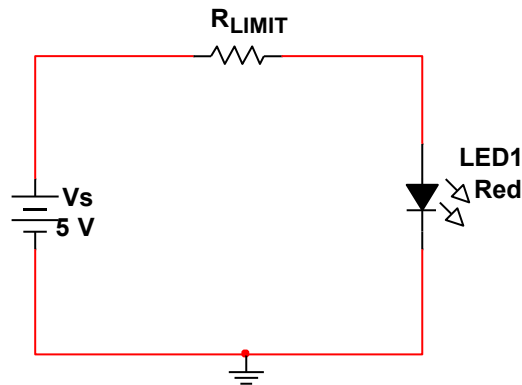

Figure 6.1 – LED DC Circuit
1. **Design** a circuit based on **Figure 6.1** to illuminate the LED.
2. **Build** the circuit from **Figure 6.1** on the breadboard using your calculated **R_{LIMIT}** and observe the behavior of the LED.